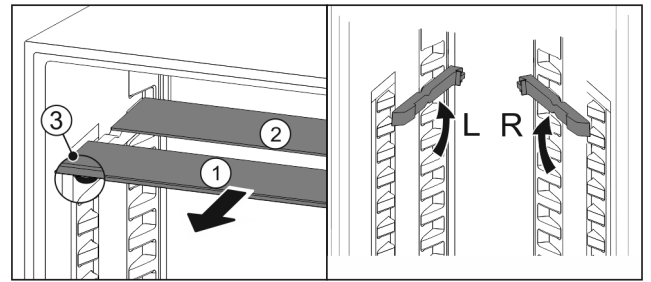

Fig. 168
- Pull the glass panels out Fig. 168 (1) from the front, one at a time.
- The glass panel Fig. 168 (1) and trim strip are at the front.
- The stops Fig. 168 (3) point down.